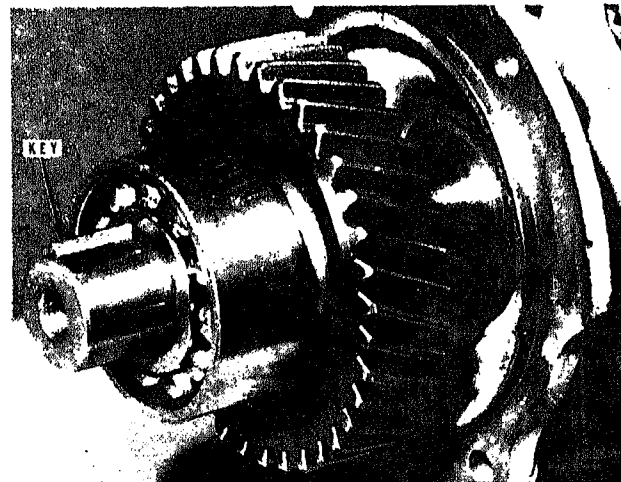

Fig. 12-2-8. Remove accessory drive pulley key
1. Remove accessory drive pulley key, if used. Fig. 12-2-8.